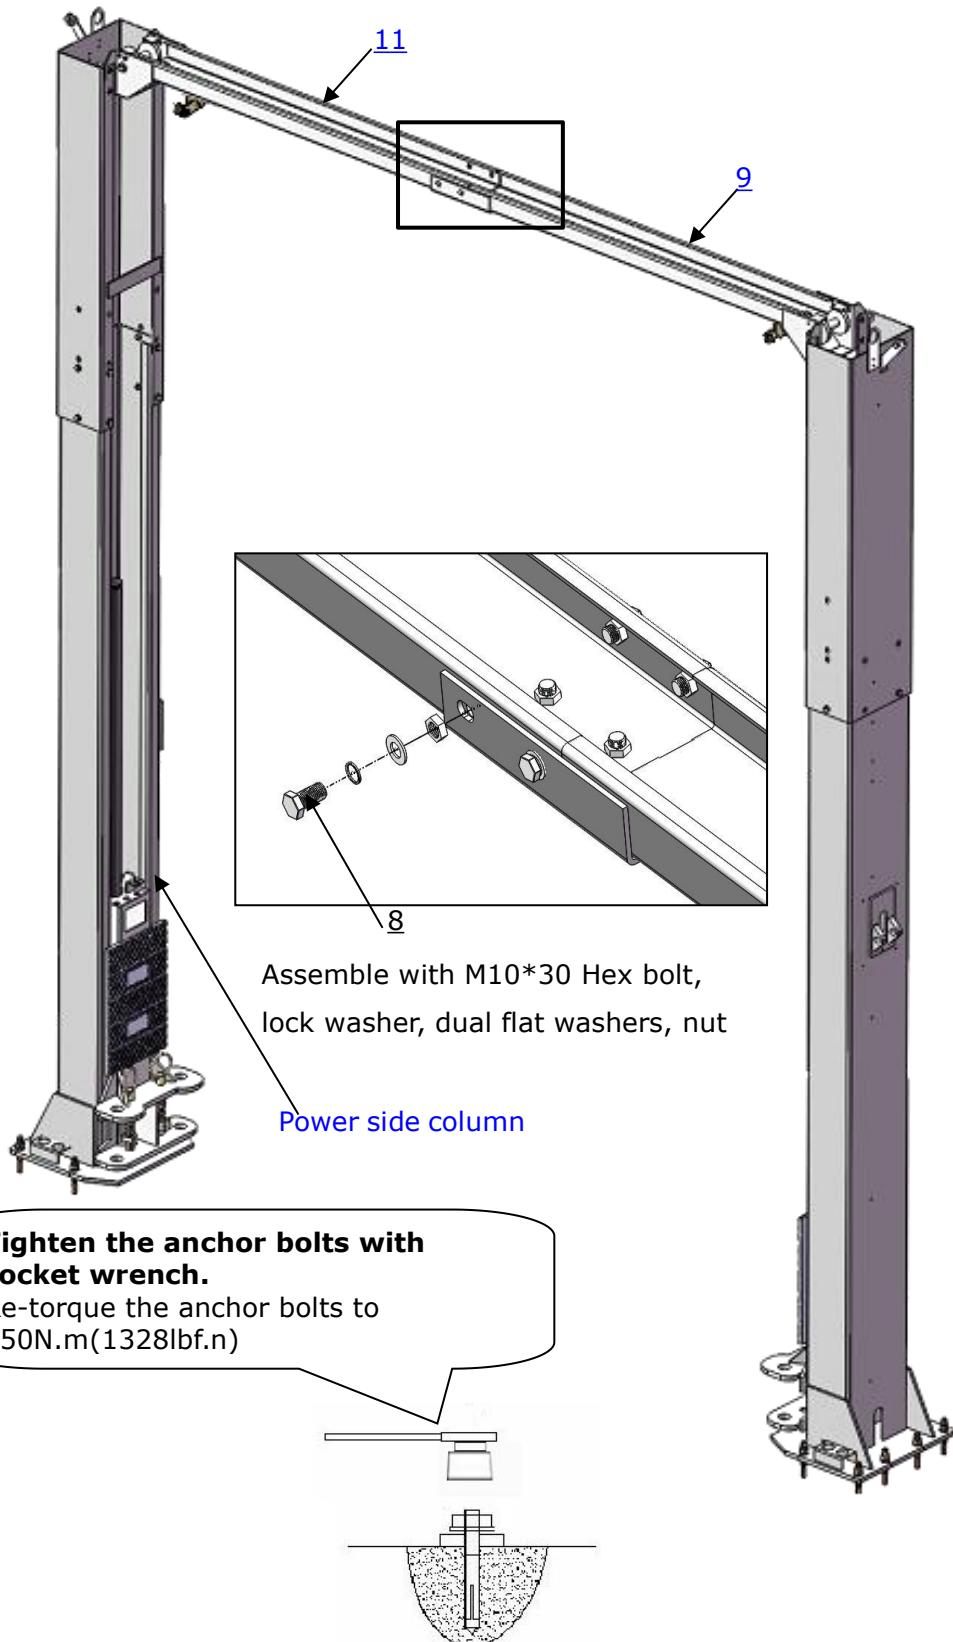

Fig. 21
2. After install the other top beam on off side outer column, bolt both top beams and tighten all the bolts. Finally tighten the anchor bolts. **(See Fig. 21)**